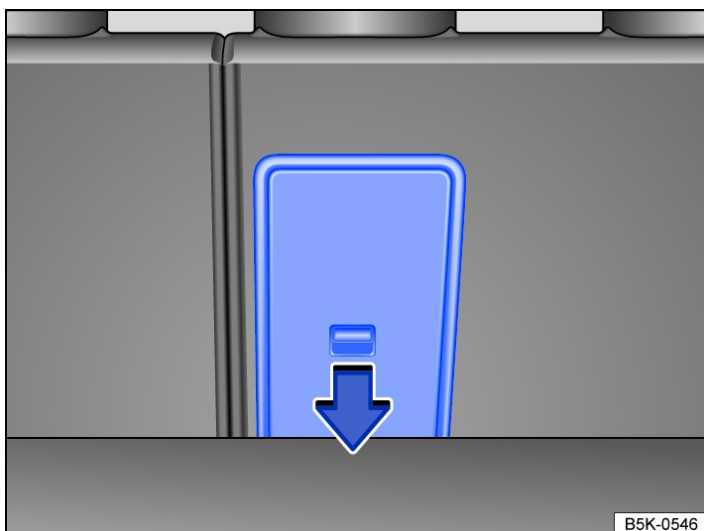

Fig. 2 In the luggage compartment: opening the load-through hatch.
1. Push down the release lever in the direction of the arrow → Fig. 2 and push the cover forwards.